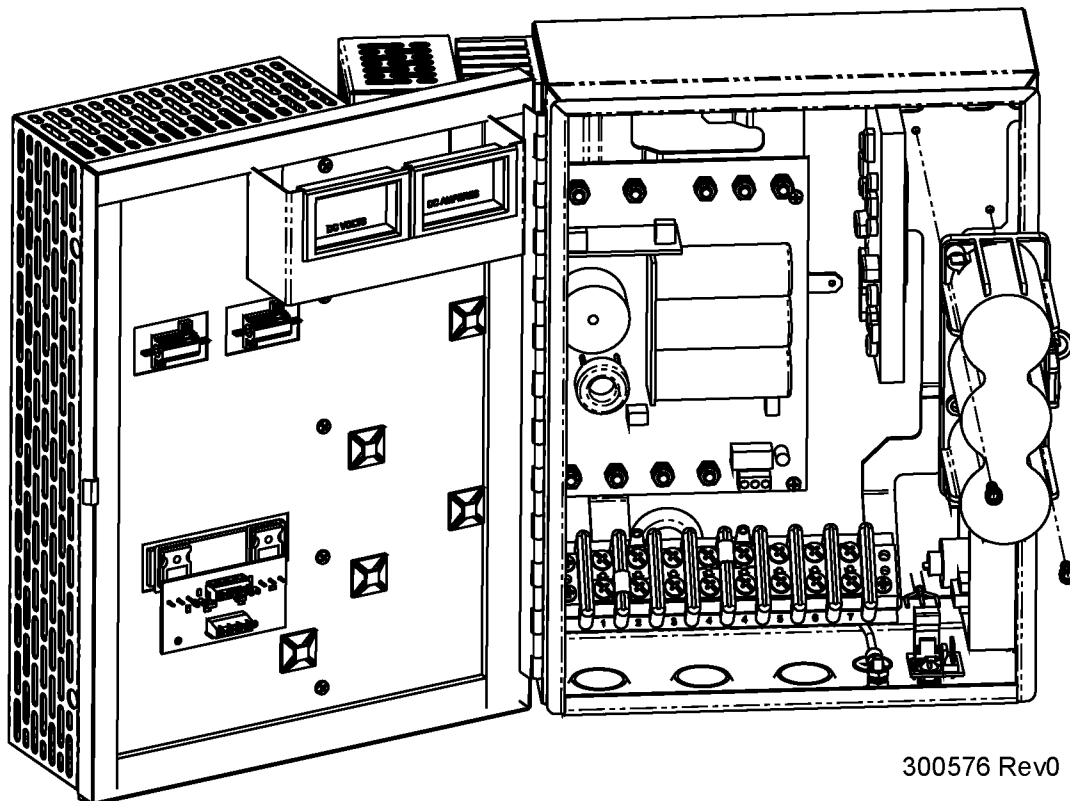

Figure 34 - Backup Battery Replacement
3. Reinstall the two orange wires back to the terminals of the pressure switch. Open the manual shutoff valve to supply fuel gas to the TEG to start it. If the TEG cannot start or combustion cannot be maintained, refer to Figure 34, unplug the solenoid valve cable connector from interconnection board located inside the bottom of the TEG electronics enclosure. Measure the resistance between the 3 contacts of the solenoid valve cable connector.